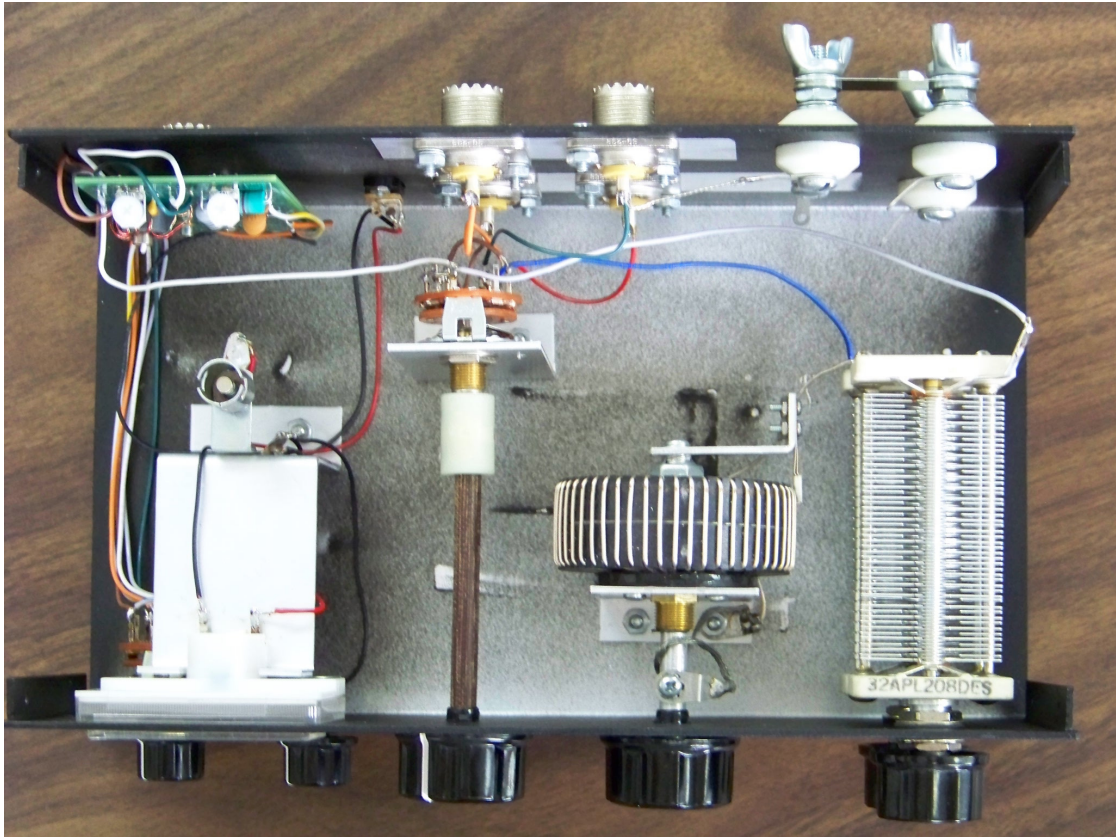

FIGURE 1 – TOP VIEW OF TUNER
4. Green wire to the "Ant 4" connector center pin (NS).
12. Install the variable inductor bracket to the chassis using two 4-40 x 3/8" screws, nuts and one lockwasher. Place a #4 solder lug on the screw closest to the right hand side of the chassis, as viewed from the front. See Figure 1 and the drawing below for reference.
13. Set the inductor wiper to the right (3:00 position) and connect the loose end of the braid attached to the inductor shaft to the ground lug at the base of the mounting bracket (NS). Dress the braid as shown on the drawing below.
22. Take the free pigtail from the variable inductor and feed it through the upper and lower stator tabs toward the center of the chassis. Wrap the wire through the tabs and solder it. (S1) (See Figure 1 for reference)
24. Solder the Blue wire from the antenna switch to the rear rotor solder lug of the lower capacitor. (S1) (See Figure 1 for reference)
25. Solder the Grey wire from the antenna switch to the rear rotor solder lug of the upper capacitor. (S1) (See Figure 1 for reference)